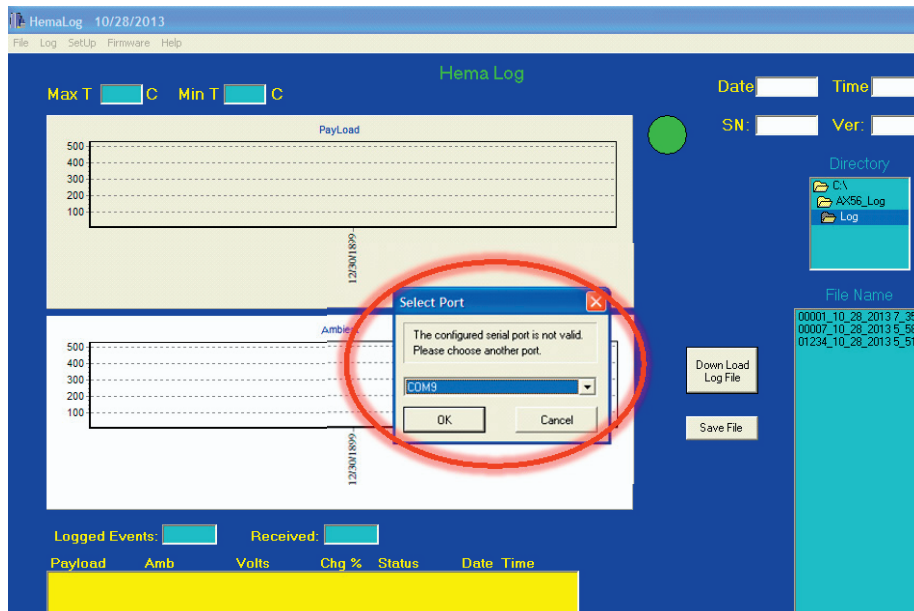

Figure 56. Select Serial Port Dialog Box
- If **Select Port** dialog box appears, select another com port from the drop down list (Figure 56).